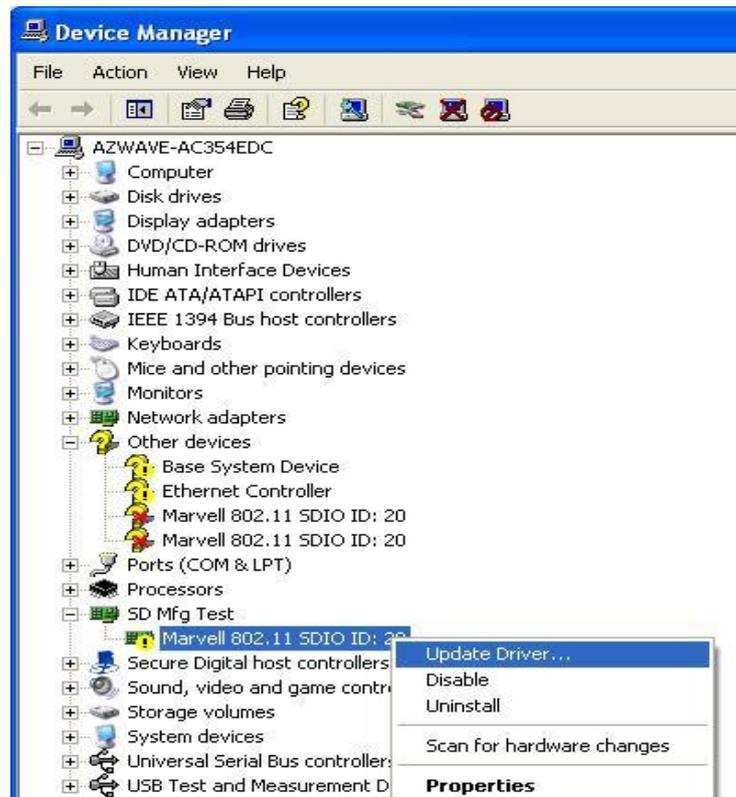

Figure 3
1. Refer to Figure 3 for the indication of the 8787 device in the Windows Device manager.